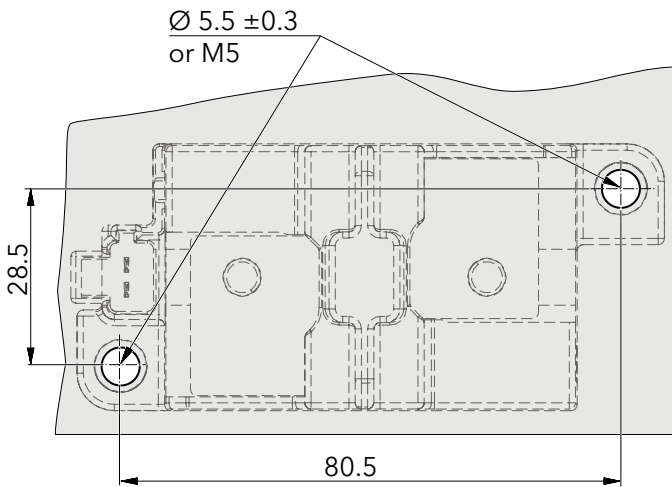

Fig. 2: C801-250-G0Y...: Dimensions and layout of mounting holes
- A suitable mounting plate with 2 mounting holes must be provided according to the following dimensional drawings (Fig. 2).